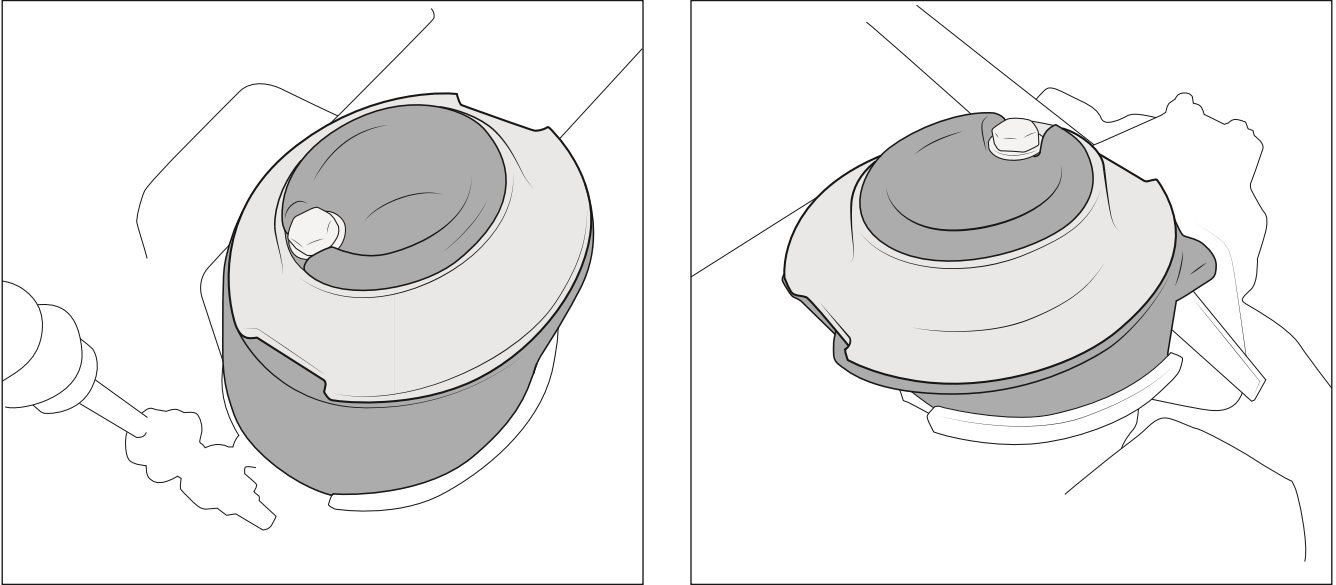

Figure 29
8. Install the factory coil spring isolators to the AEV coil spring mounts (fig. 29).